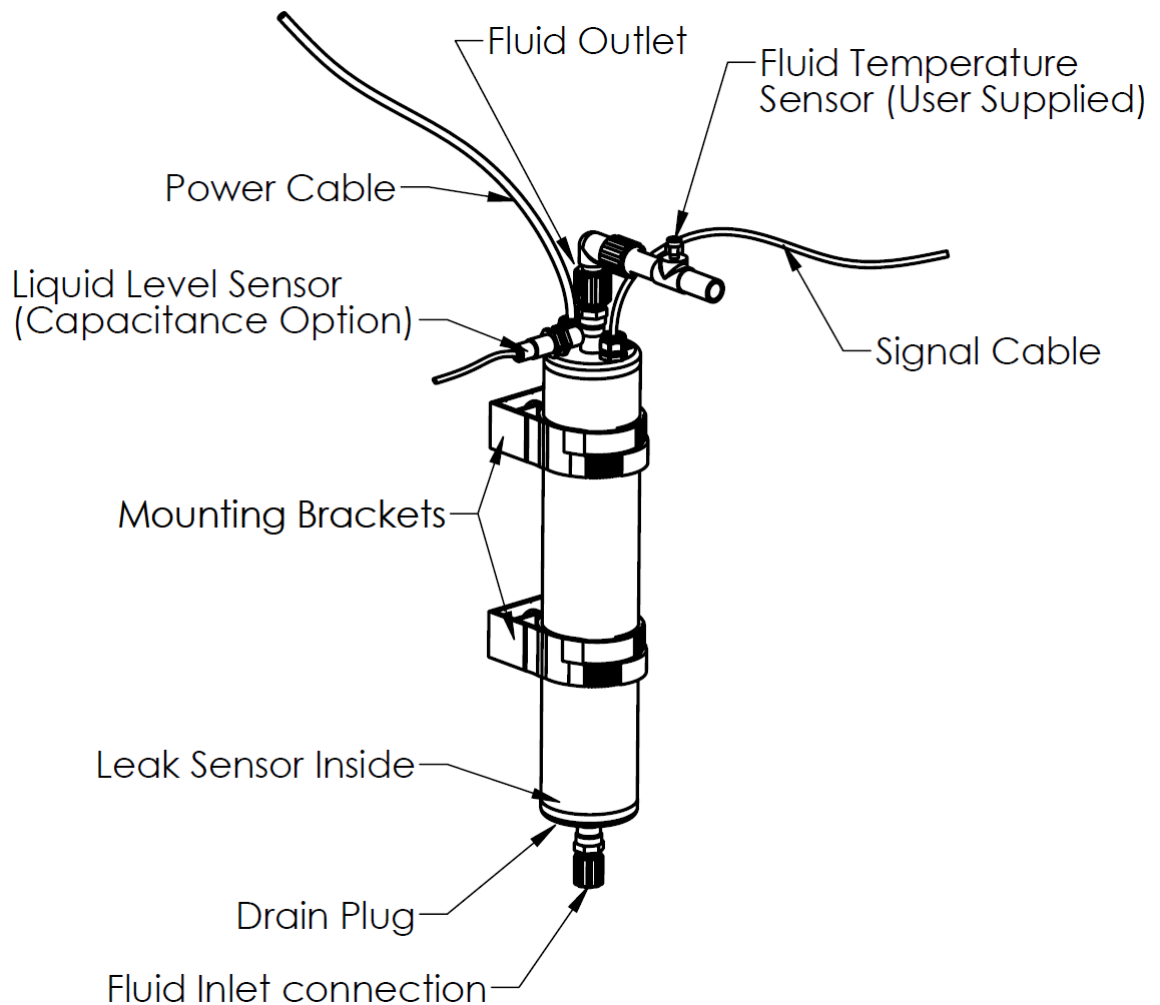

Figure 3-1
- Attach the inlet and outlet fluid connections following the fitting manufacturer's procedures. Fluid connections are located at the bottom (inlet) and top (outlet) of the heater, see Figure 3-1.
- A housing drain plug is located at the bottom of the heater to drain off any liquid that may be present inside the housing, see Figure 3-1.